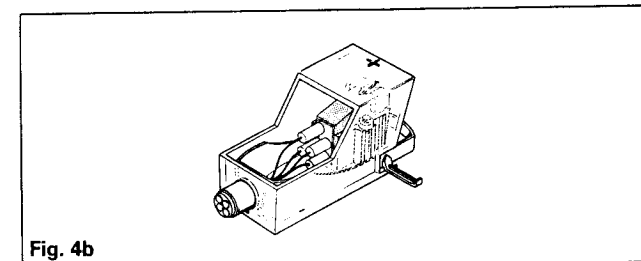

Fig. 4b
- 3 Slide the pickup headshell, with stylus carrier replaced, into the setting gauge (figure 4b), taking care not to damage the stylus.